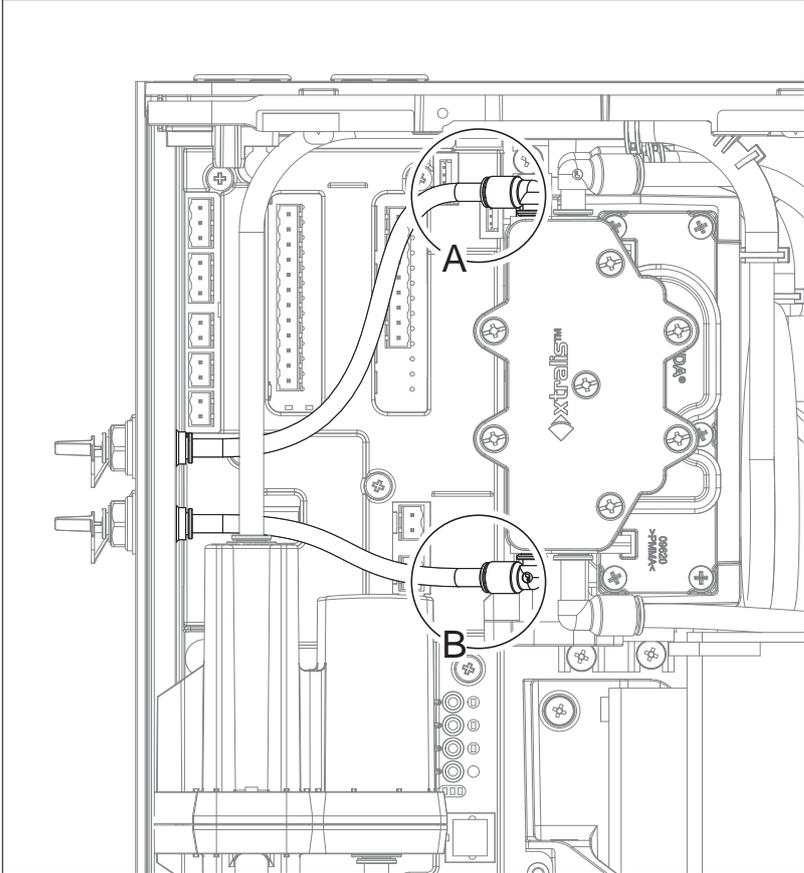
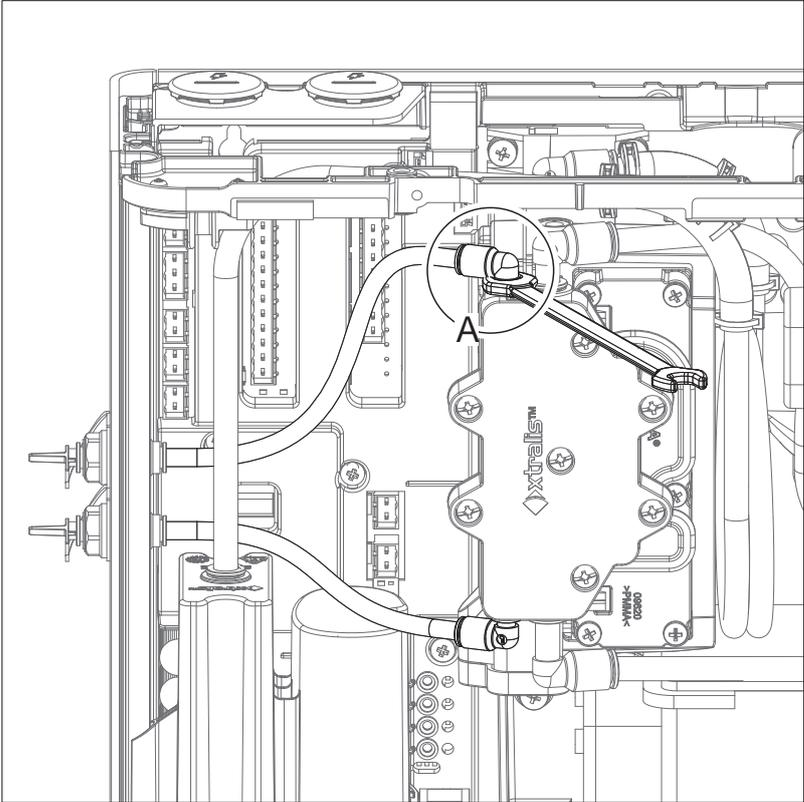

Figure 7-26: Smoke Test Port Pipes
Figure 7-27: Disconnect Smoke Test Port Pipes
- 5. Disconnect the smoke test port tubes (A and B) as shown in Figure 7-26 by pressing the black release button with a spanner and pull out the pipe as shown in Figure 7-27.